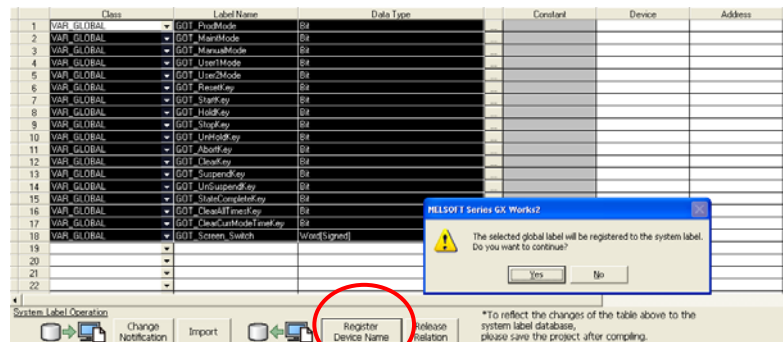

Figure 15 – Registering Global Labels in System Label Database
- a. Launch the GX Works 2 and in the PLC program, open the global variable window. Select the labels that need to be registered in the System Label Database and then click the “Register Device Name” button and confirm the operation as shown in Figure 15.